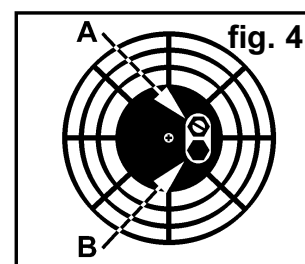

fig. 4
The heater has been factory pre-set for paraffin and will produce the correct heat output when first used from new. You should run the heater at the pre-set output in order to ensure the long life, safety and reliability of the unit. Minor adjustments to heat output may be required during the first 60 hours of use. These adjustments are made to the air pressure valve (see fig.4.A). Once the unit has completed the running-in period it should not be necessary to alter the air pressure again until a new air filter is fitted or a change of fuel takes place.
- 5.2.4. Use a pressure gauge which will measure up to 10 p.s.i. and has a 1/8" BSP thread. With the heater turned off and unplugged from the mains, remove the threaded plug from below the air pressure valve and attach the gauge, see fig.4.B. Start the heater and compare the pressure reading with the pressure chart shown on the right.
- 5.2.5. To adjust, locate the air pressure valve (fig.4.A), which is in the centre portion of the air inlet grill at the back of the unit. Hold the adjusting screw steady with a screw driver and loosen the locking nut. Turn the screw anticlockwise to decrease the pressure until it compares with the diesel figures in the pressure chart.